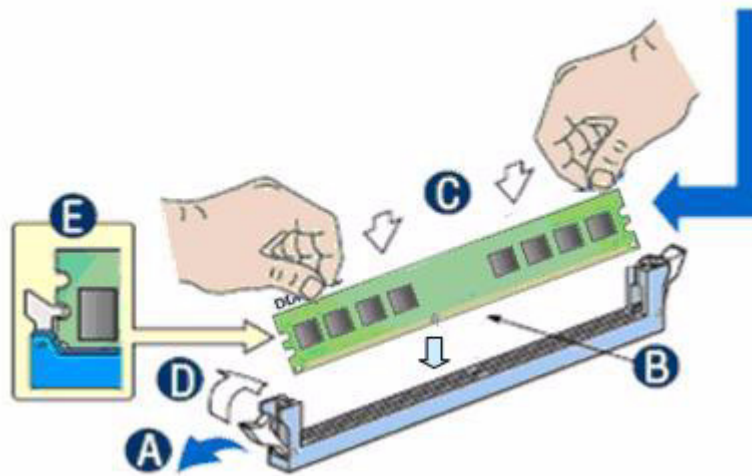

Figure 19. Installing the Memory
6. Make sure the clips at either end of the DIMM socket(s) are pushed outward to the open position (see letter “A” in Figure 19).
8. Position the DIMM above the socket. Align the two small notches in the bottom edge of the DIMM with the keys in the socket (see letter “B” in Figure 19).
9. Insert the bottom edge of the DIMM into the socket (see letter “C” in Figure 19).
10. When the DIMM is inserted, push down on the top edge of the DIMM until the retaining clips snap into place (see letter “D” in Figure 19). Make sure the clips are firmly in place (see letter “E” in Figure 19).